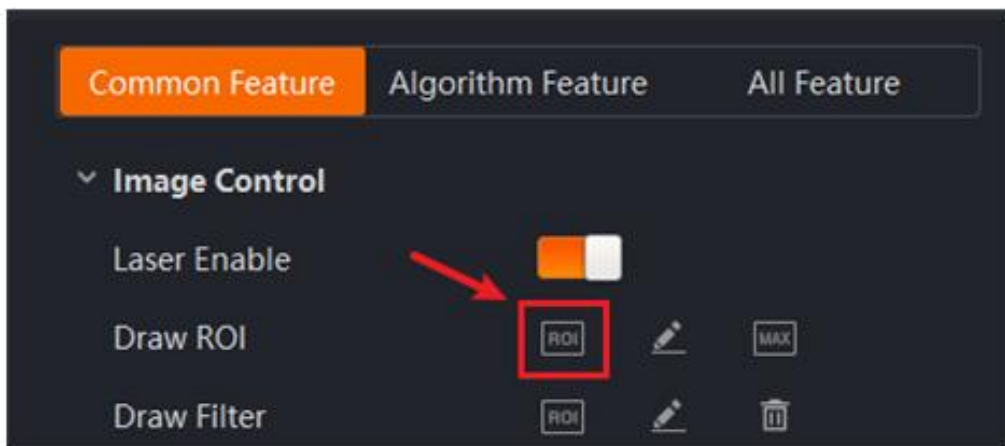
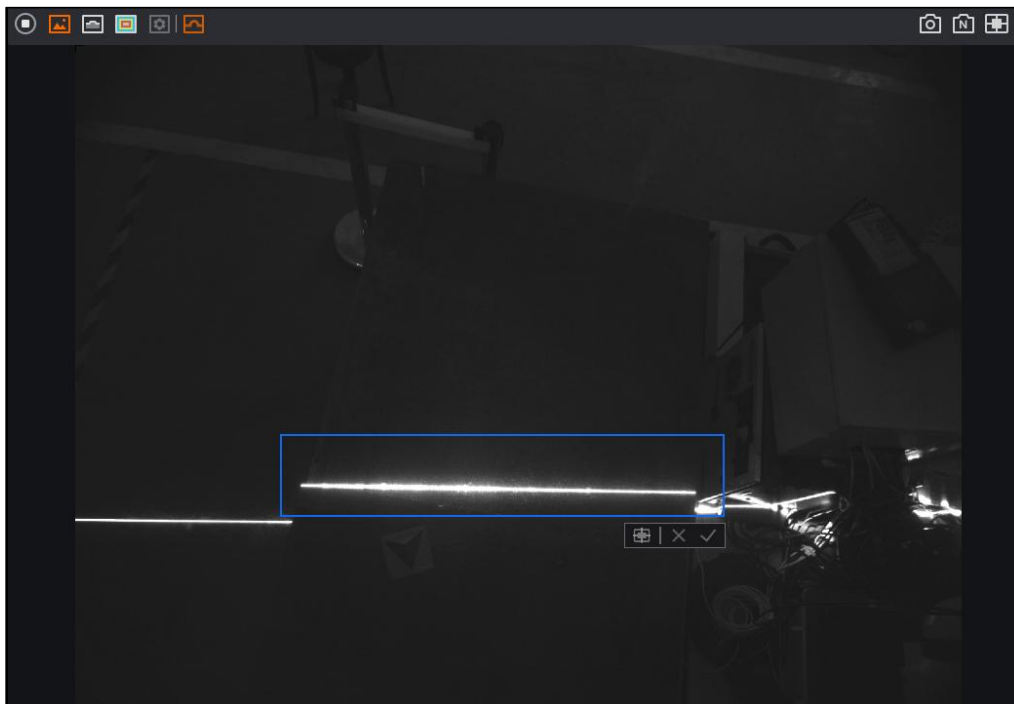

Figure 4-2 Draw ROI option
Figure 4-3 Select an appropriate ROI by framing
2. Open *Image Control* → *Draw ROI*. As shown in Figure 4-2, click the draw icon, and select an appropriate frame area ensuring the workpiece is within the frame and the ground is excluded. After drawing, click the checkmark (✓) next to the blue frame, as shown in Figure 4-3.